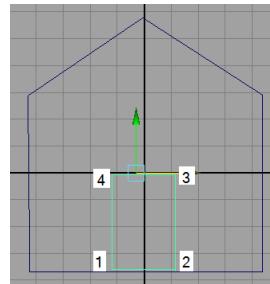

*Figure 3-101 The Tool Settings (EP Curve Tool) window*
1. Maximize the front viewport. Choose **Create > EP Curve Tool > Option Box** from the menubar; the **Tool Settings (EP Curve Tool)** window is displayed. Set the parameters in the **EP Curve Settings** area, refer to Figure 3-101.